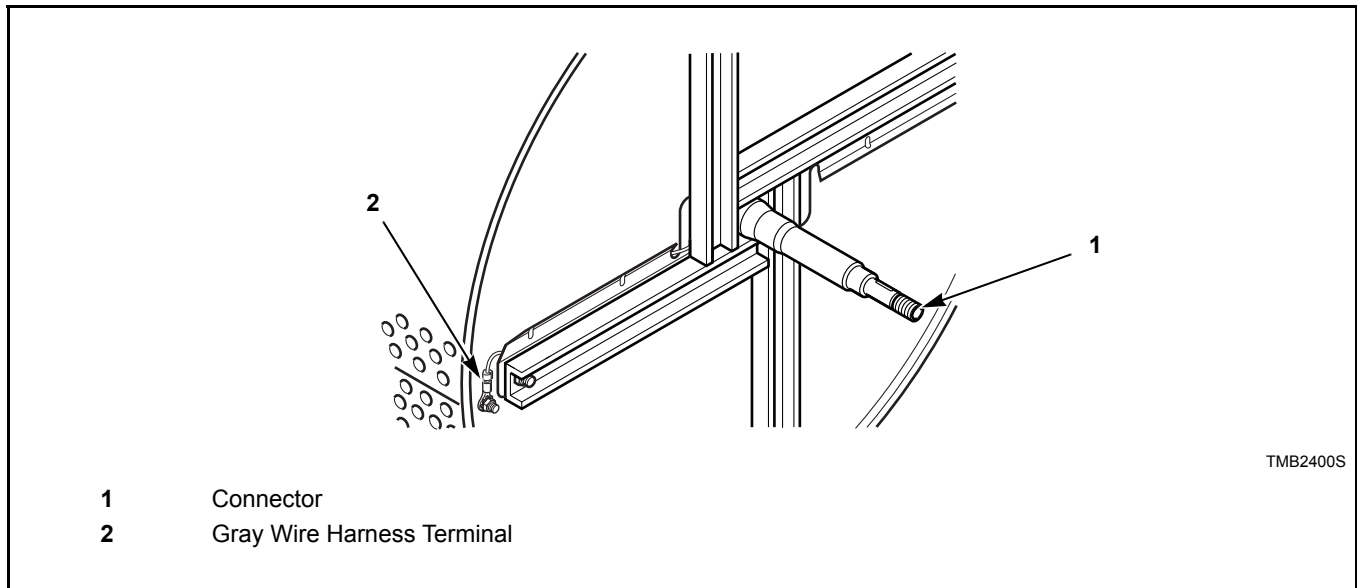

Figure 29
3. Connect one ohm meter probe to the connector in the basket shaft (Refer to *Figure 29*).